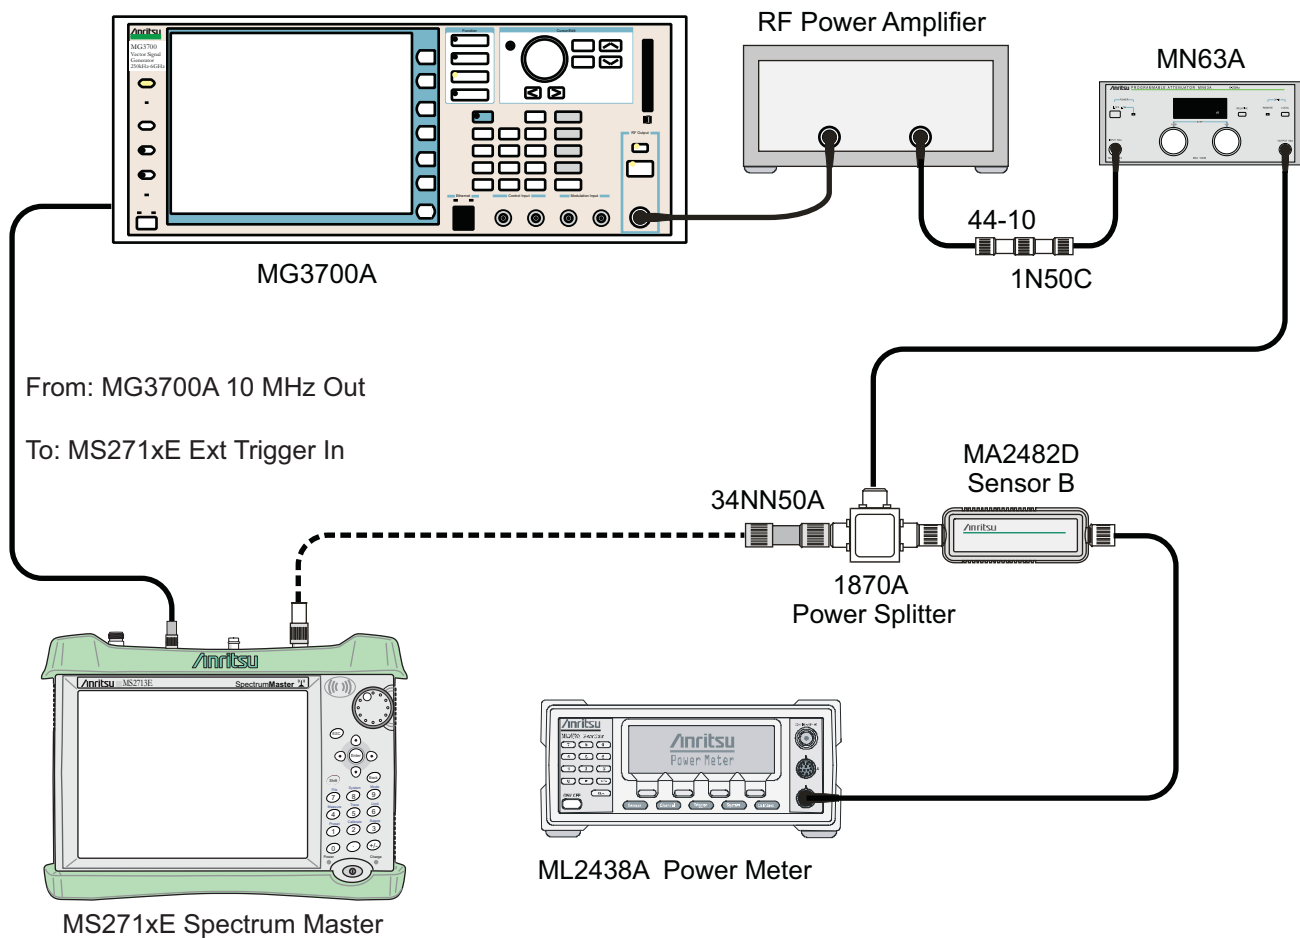

Figure 3-18. Level Accuracy Verification
26. Remove Sensor A from the Power Splitter, and then connect the Power Splitter to the Spectrum Master RF In port with the N(m)-to-N(m) adapter, as shown in Figure 3-18 on page 3-70.
31. Press the **Shift - Sweep (3)** hard keys, then choose **Meas Mode**.
61. Remove Sensor A from the Power Splitter, and then connect the Power Splitter to the Spectrum Master RF In port with the N(m)-to-N(m) adapter, as shown in Figure 3-18 on page 3-70.